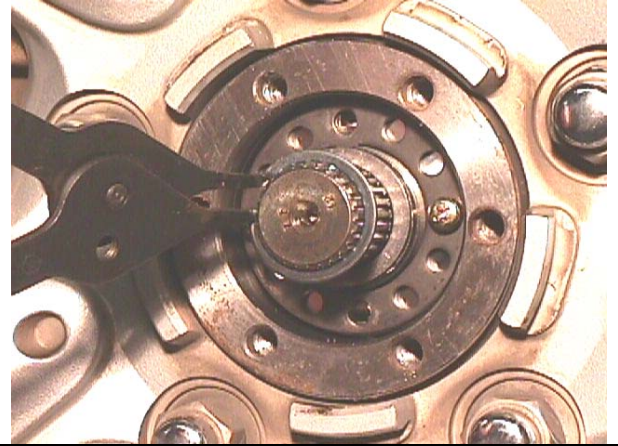

Figure 10
9. Install the axle shaft thrust washer and snap ring as shown in Figure 10. Be sure the snap ring is properly seated in the groove of the axle shaft.